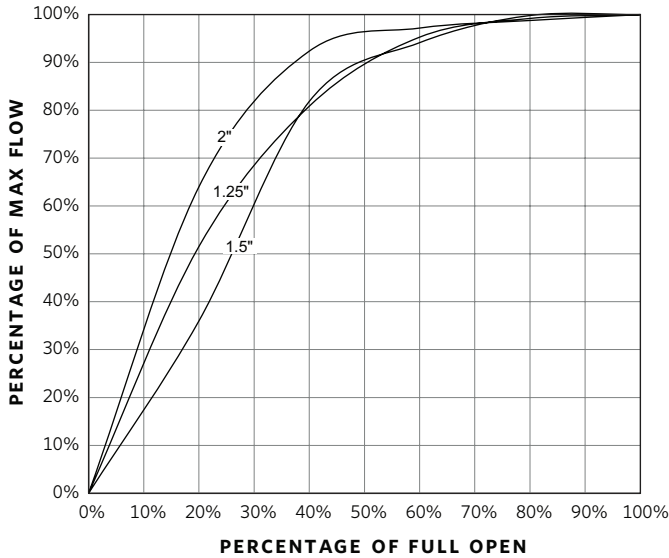

FIG. 15
3.3 Locate percentage of valve opening at the bottom scale of Flow Characteristic curve (**FIG. 15**). Project line vertically up to intersect with the Valve Characteristic Curve and from this point project line horizontally across to the left of the chart and record the percentage of maximum flow rate.
From Flow Characteristic curve (**FIG. 15**), a 2" valve, 60% open, represents 95% of maximum flow.